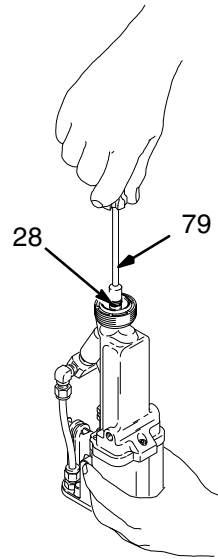

Fig. 23
5. Remove the fluid packing rod assembly (28) with the 9 mm hex nut driver (79). See Fig. 23.
13. Install the fluid packing rod assembly (28) into the gun barrel. Using the 9 mm hex nut driver (79), tighten the assembly until it is just snug, then check the drag on the fluid rod. See Fig. 23.